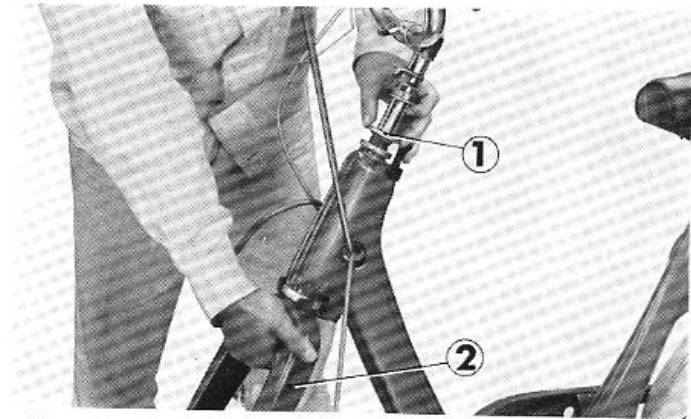

Fig. 4-14 ① Steering top cone race
1. Assemble 26 and 21 steel balls into the bottom and top cone race respectively with the use of grease. (Fig. 4-14)